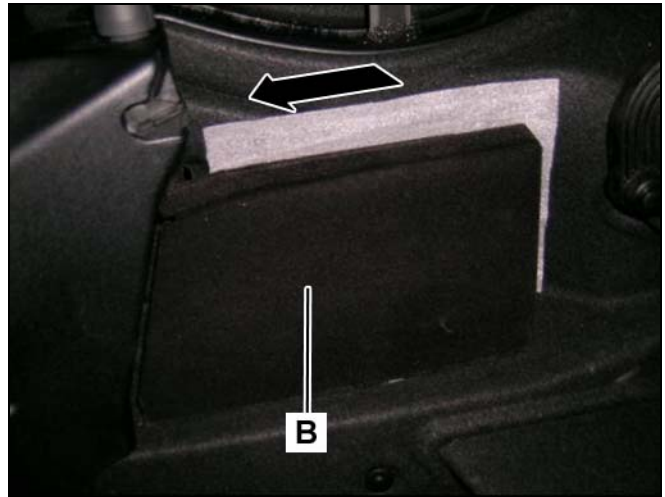

Figure 28
6. Pull back Part B of the SDARS bracket until it contacts the paneling (Figure 28).
Note: To prevent bonding, place paper between the Velcro on the SDARS bracket (B, Figure 28) and the trunk paneling while pulling back Part B of the SDARS bracket. Push down the bracket assembly during the mounting.